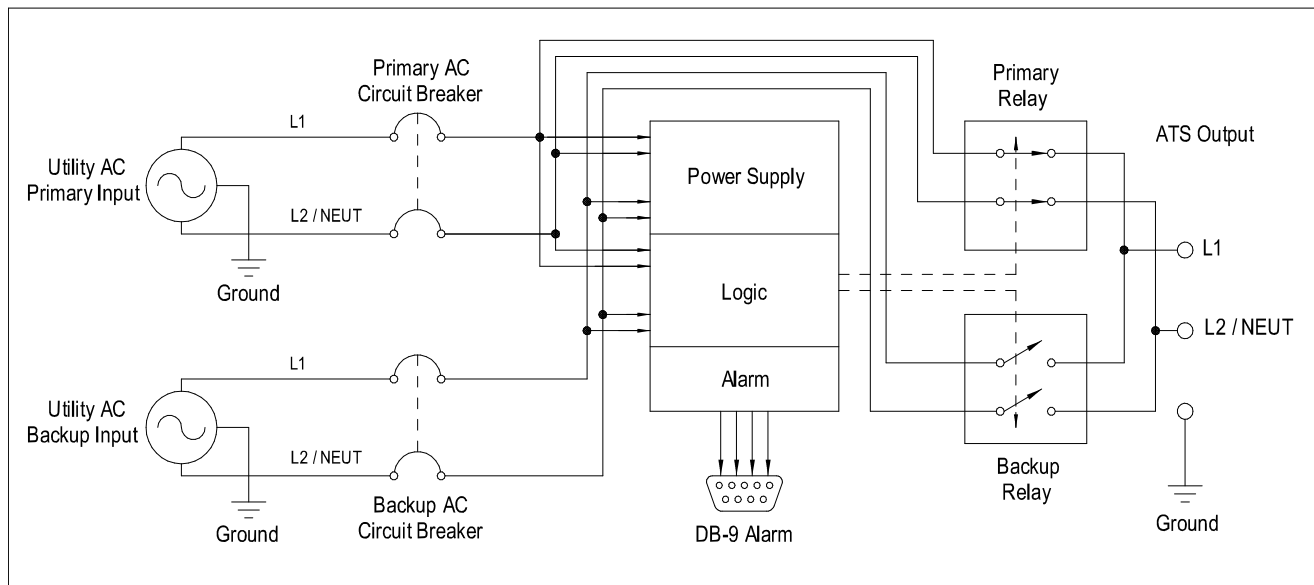

Figure 9: ATS-800 System Architecture
2.1 ATS SYSTEM ARCHITECTURE (See Figure 9)